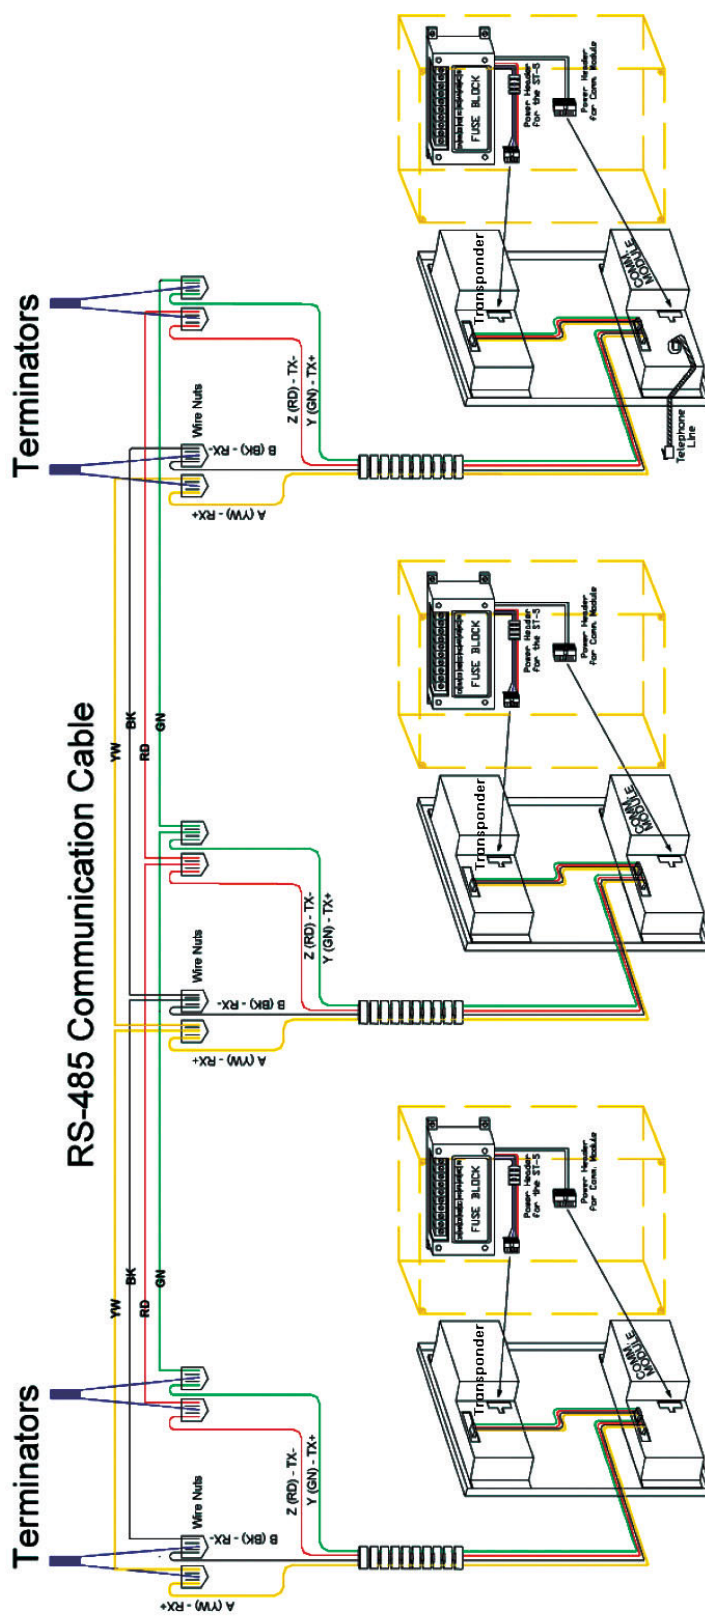

FIGURE A-1: Transponder Communication Network
1. If there is more than one Transponder, install the other Transponders and the interconnecting RS-485 line, if required, which links all of the Transponders. See Figure A-1.